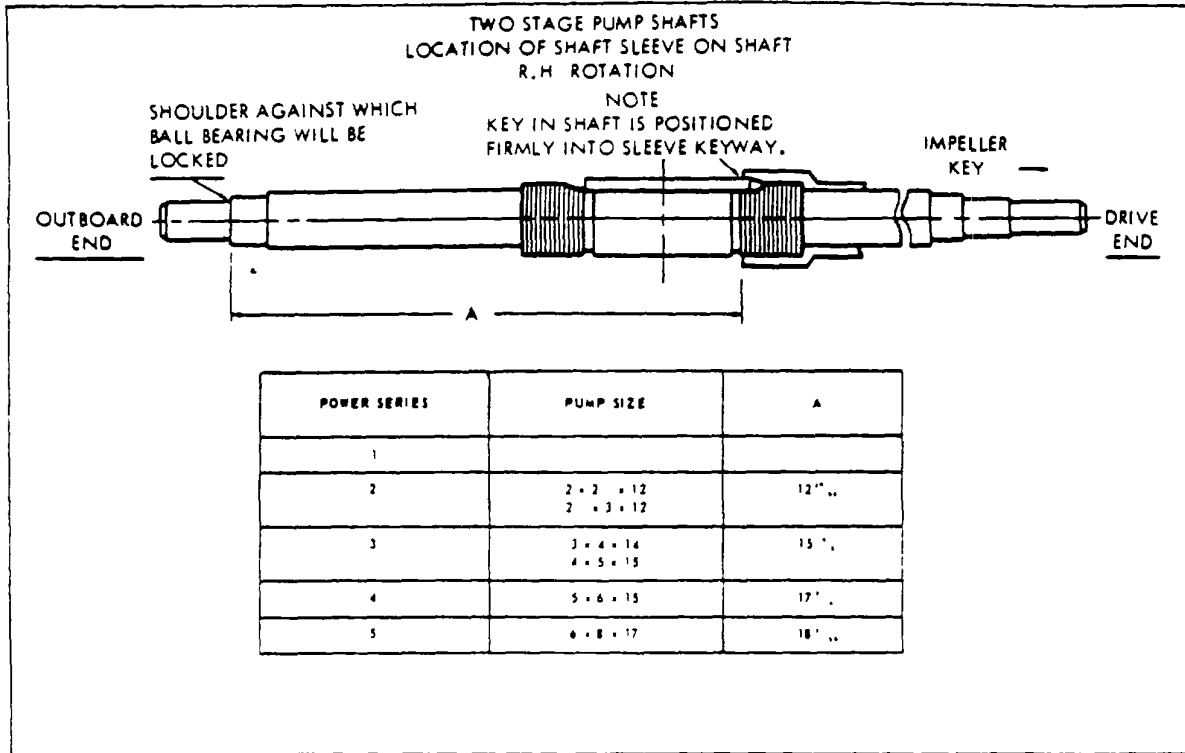

Figure 2
2. On a right hand unit, thread inboard sleeve (65) onto shaft (71) distance "A" (refer to Figure 2). On a left hand unit, thread outboard sleeve (57) onto shaft distance "A" (refer to Figure 3) When the sleeve is in position, its keyway should align with keyway on shaft. Coat key and keyway with loctite sealant grade CVV Insert key (68) into keyways of shaft and sleeve Tap key firmly in place.